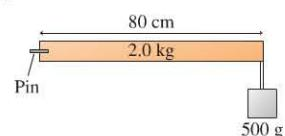

FIGURE P8.6
6. III How much torque must the pin exert to keep the rod in Figure P8.6 from rotating? Calculate this torque about an axis that passes through the point where the pin enters the rod and is perpendicular to the plane of the figure.